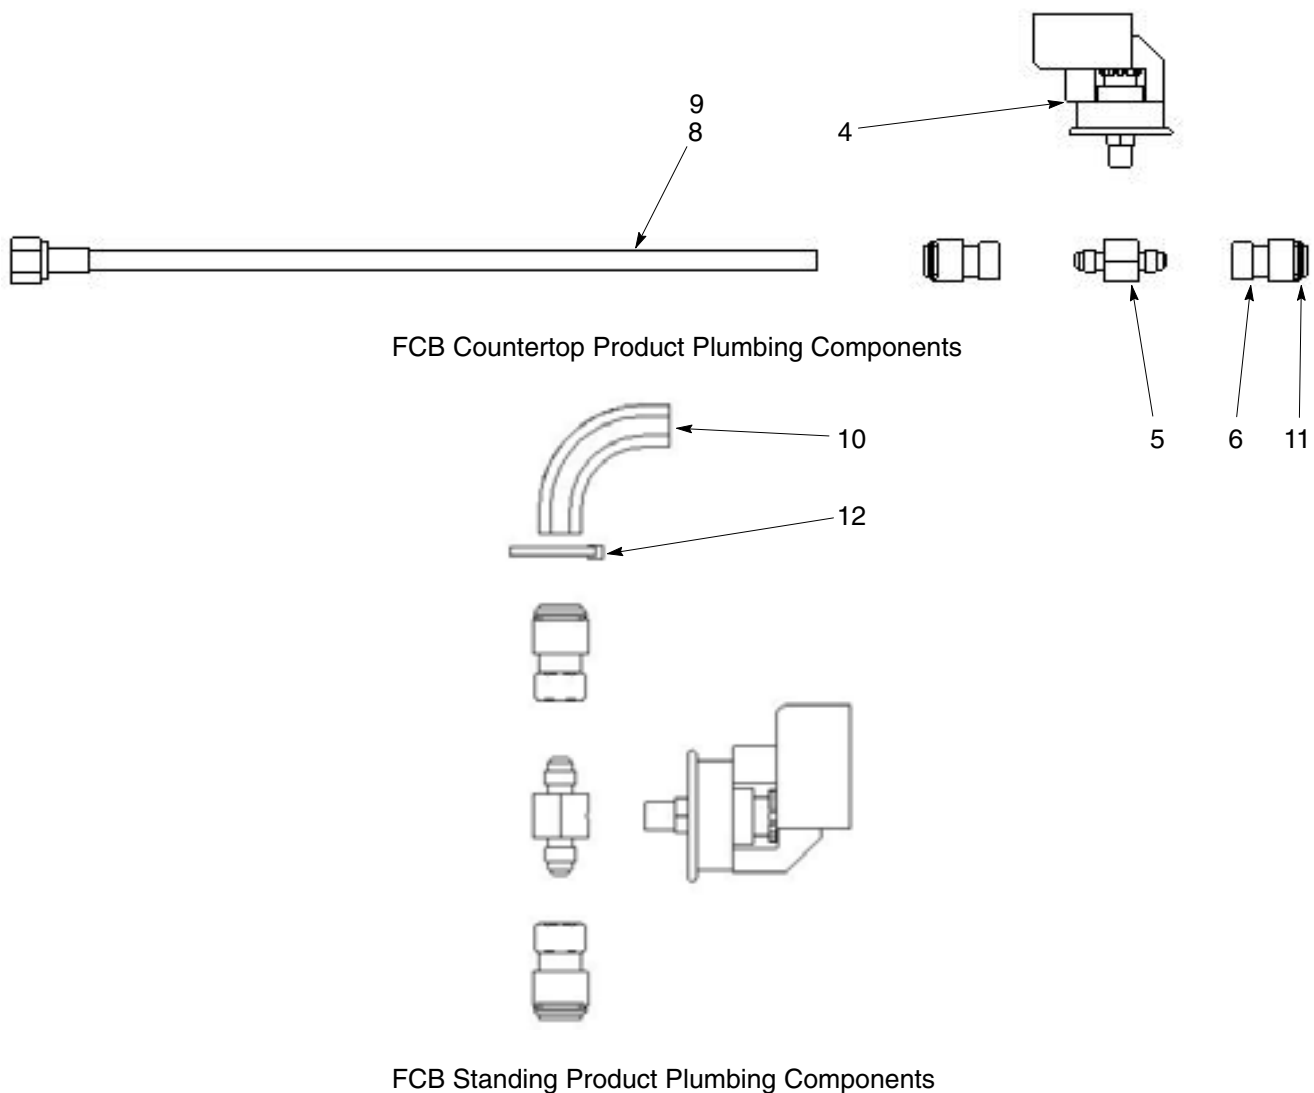

FIGURE 1. PRODUCT PLUMBING COMPONENTS
6. Install new syrup inlet line (2 flavor OC unit), or connect existing line with tubing elbow and cable tie (2 and 4 flavor standing units) to pressure switch assembly (see Figure 1). Assemble locks onto pressure switch assembly and reconnect electrical harness paying close attention to maintaining wiring integrity. Switch is supplied with adapter harness to retrofit existing wiring (wires to be attached to "C" common and "NC" normally closed. **Note: some parts will be left over.**